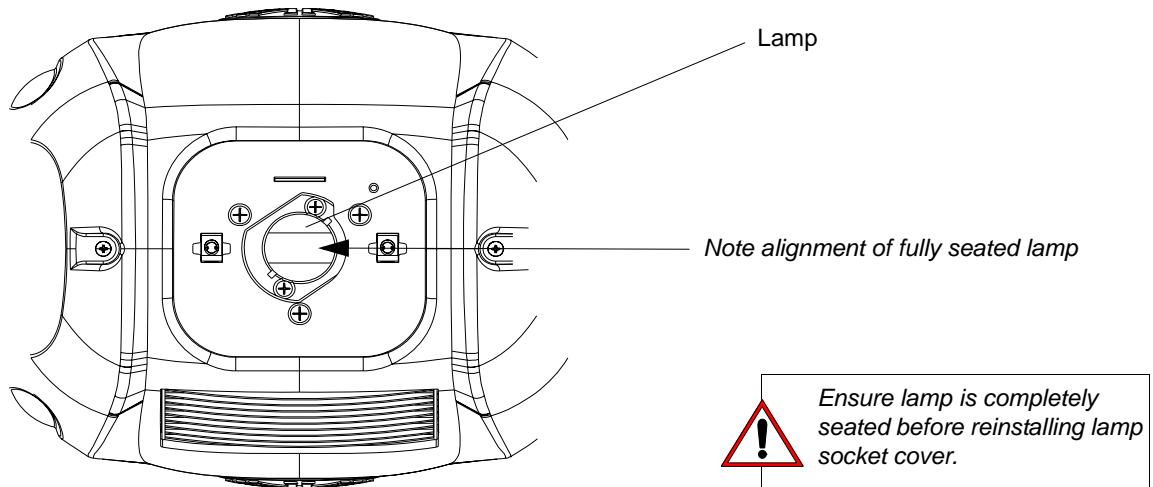

Figure 2-5: Installed Lamp
Step 8. Turn lamp clockwise to seat lamp into socket. Lamp base should be aligned as illustrated in Figure 2-5.